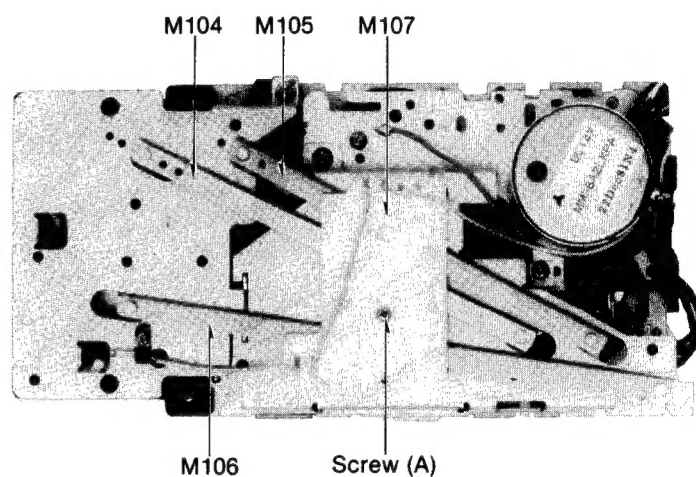

Fig. 1
1. Remove screw (A) and connection plate retainer (M107). Then remove fast forward connection plate (M104), rewind connection plate (M105) and record connection plate (M106) (see Fig. 1).